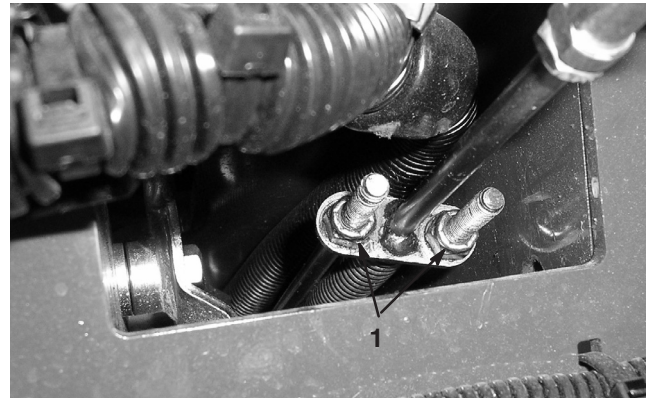

Figure 17
- Tighten the two override lock nuts (Fig. 17) down until the override mechanism meets the above dimensions (this should occur when nuts are fully threaded on rod). This adjustment moves the neutral position of the bail and requires the following procedures.